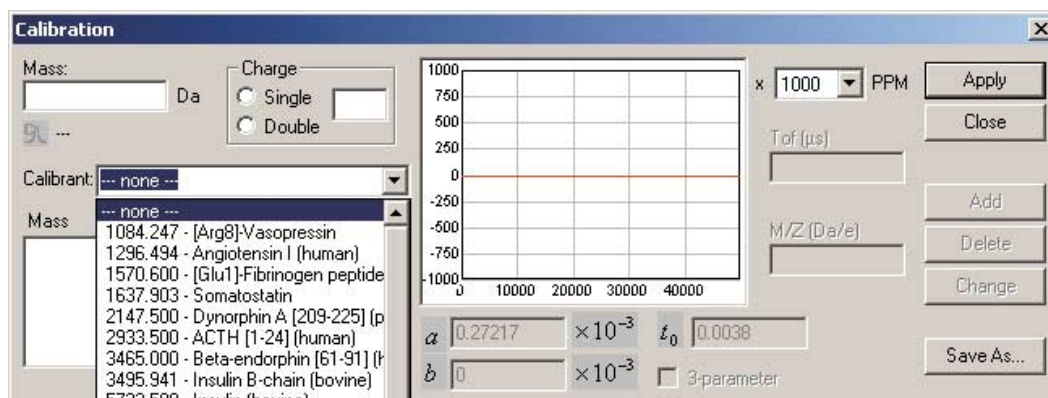

Figure 1-22: The **Calibration** dialog and the calibration cursor.
1. Open the **Calibration** dialog (Figure 1-22) by clicking the **Calibrate** toolbar button. The cursor will change to the calibration cursor.